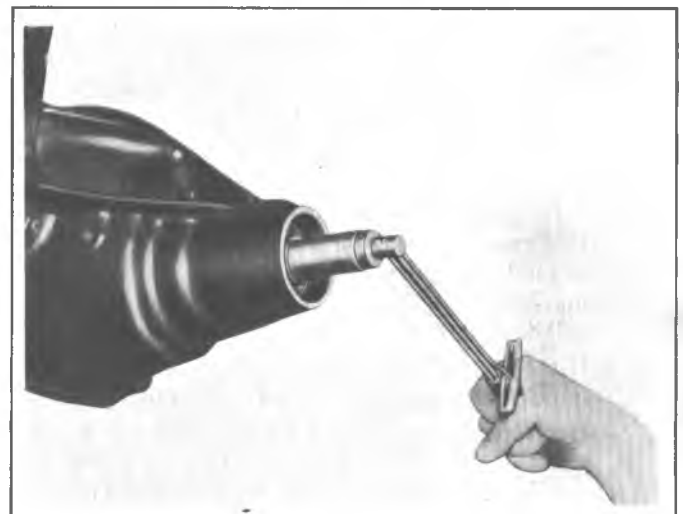

Fig. 21B--Measuring Rotating Torque
4. Hold the preload stud stationary with a wrench on the flats and tighten hex nut. Tighten until 20 in. lbs. of torque are required to rotate the bearings, as shown in figure 21B.